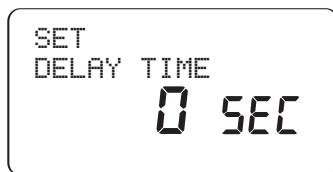

Figure 22: Display – Station Delay
1. Turn the rotary dial to **STATION DELAY** [See Figure 22]